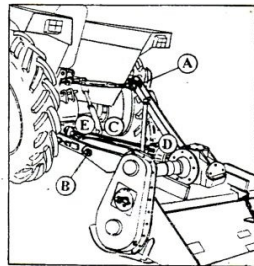

Figure 4. The process of aggregating small particles.
Fasten the upper tractor lever - topling to the support of the upper point on the rotary tiller (figure 4, item A).
3. Attach the left lower tractor lever (and also the stabilizer lever, if you use it) to the left sleeve of the rotary shredder and secure it in that position with the existing pins (figure 4, item B).
4. Attach the right lower tractor lever (and also the stabilizer lever, if you use it) to the right sleeve of the rotary shredder, and secure it in that position with the existing pins (figure 4, item C).
5. Attach the front end of the cardan shaft (the end of the shaft on which the friction clutch is located) to the input shaft of the rotary grinder and secure it in that position (Fig. 4, item D).
7. When you have attached the tool to the tractor in the previous way, you need to bring the axis of the reducer housing to a horizontal position, by extending or shortening the upper tractor lever (topling) as shown in Figure 4.